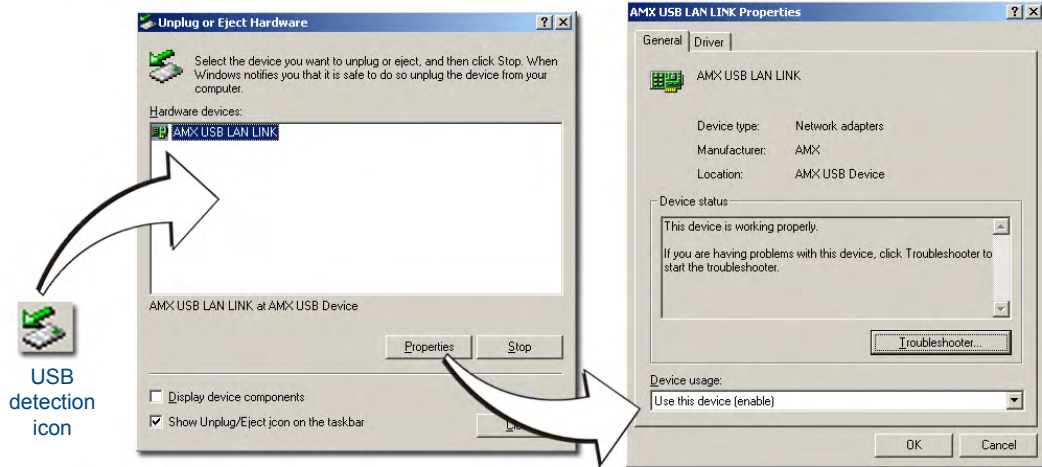

FIG. 35 USB Properties windows
3. Confirm that a new USB detection icon (FIG. 35) appears in the lower-right taskbar on the PC display window.